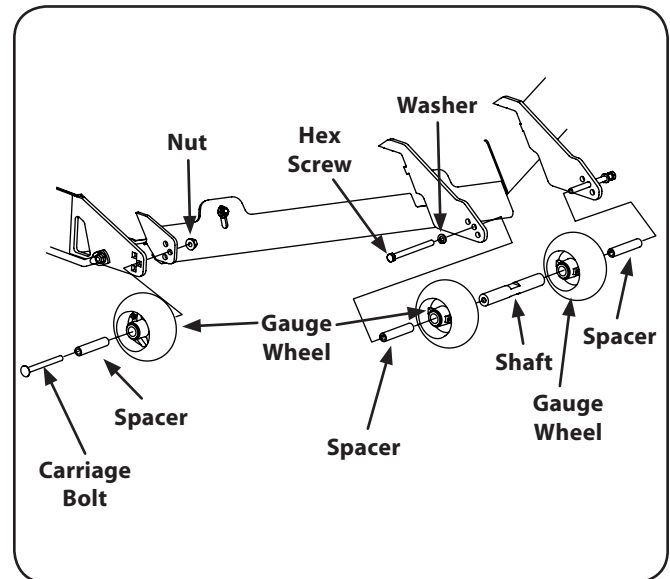

Figure 6-10
- Remove the lock nut securing one of the outer front gauge wheel shoulder screws to the deck. Remove the gauge wheel and shoulder screw. Refer to Fig. 6-10.